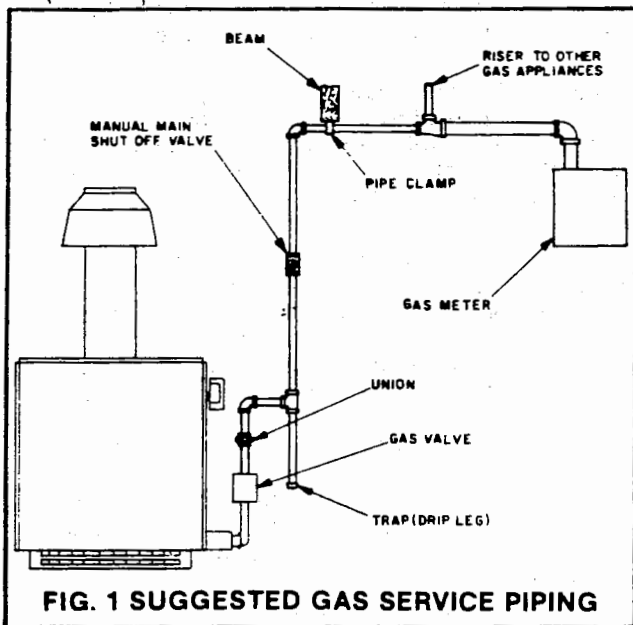

FIG. 1 SUGGESTED GAS SERVICE PIPING
6. Connect gas supply line to the boiler using pipe size which will result in less than .3 inch W.C. pressure drop between the meter and boiler. Refer to chart below. A drip leg must be installed in the drop to the boiler. See Fig. 1. Consult gas company in your area for special requirements which are not provided on a standard boiler. The appliance and its individual shutoff valve must be disconnected from the gas supply piping system during any pressure testing of that system at test pressures in excess of 1/2 psig.